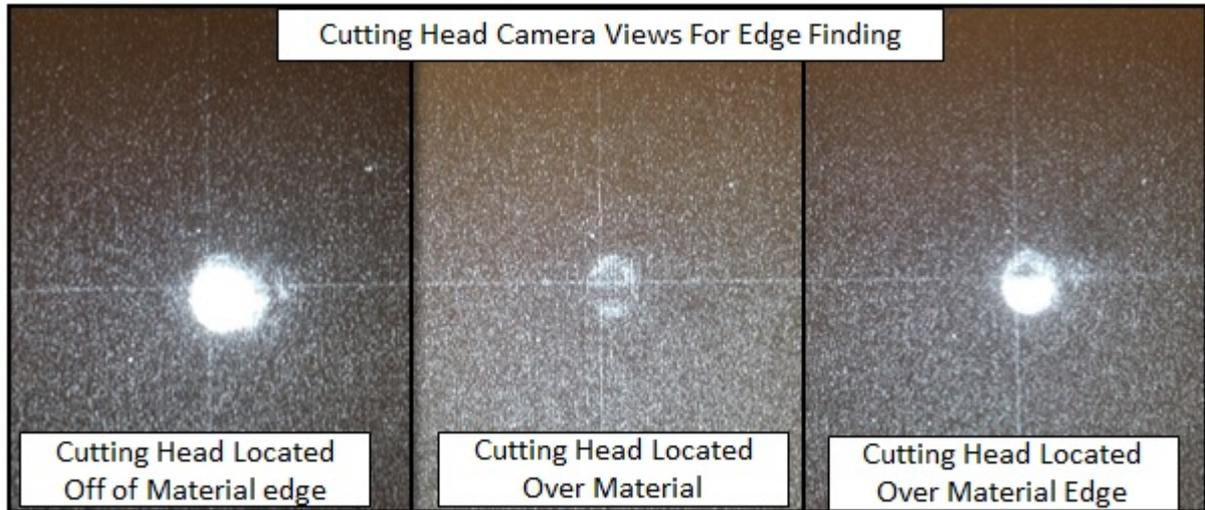

Figure 28: Cutting height properly set showing Precitec readout(left) and optics(right).
- (Figure 28) Using either the HeNe alignment beam or the camera feature and a slow table motion speed, align the cutting head to the selected origin. The camera is best used to find material edges. To find an edge move the head in small increments near the edge until it can be seen in the camera viewer.